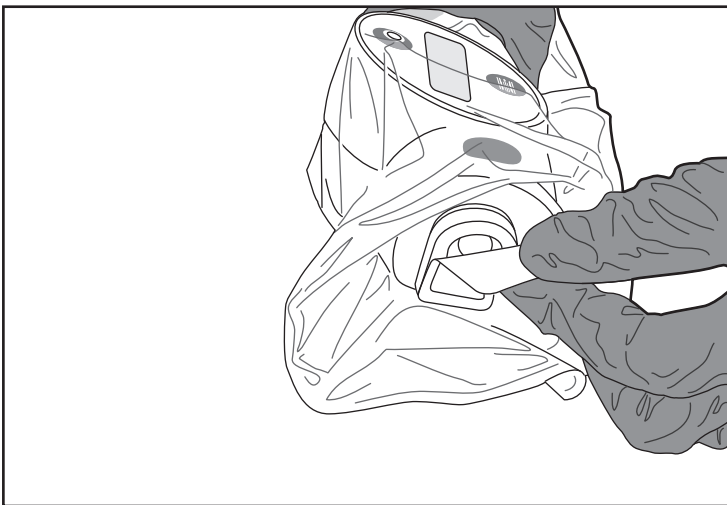

Figure 9. Removing Sticker
9. When ready to insert the MDU5 PLUS™ compatible catheter, remove the sticker from the faceplate and discard appropriately (Figure 9).